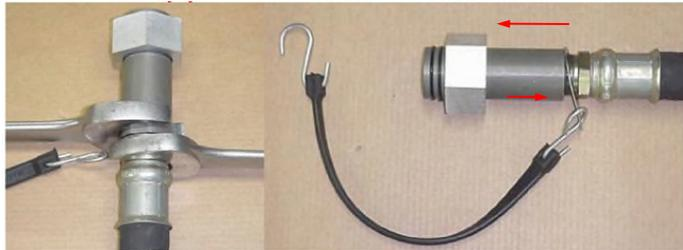

FIGURE 6
2. Slide the Lock Nut over the Lower Housing and slide the end of the Ring over the male pipe thread of the hose and screw hose into the female pipe thread in the Lower Housing as shown in Figure 6 and tighten firmly.